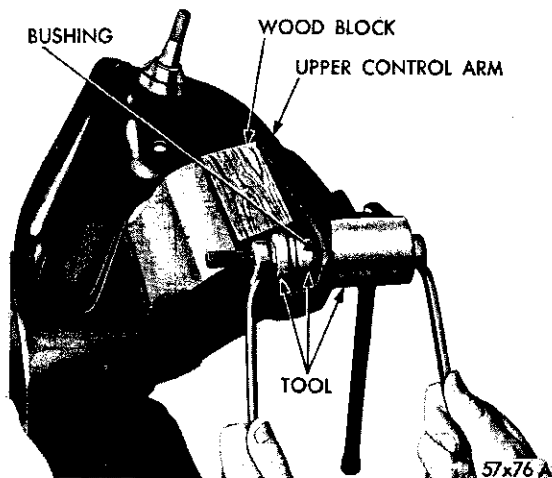

Fig. 13—Removing the Upper Control Arm Bushing
(1) Remove the ball joint using Tool C-3560 for Models TC-1, TC-2 and TC-3, or Tool C-3561 for TY-1. The ball joint balloon type seal will come off as the ball joint is removed.
(2) Assemble Tool C-3710 (using adaptor SP-3826 in place of SP-3088) over the bushing and press the bushing out of the arm (from inside out) (Fig. 13). The bushing support sleeve will come off as the bushing is removed. **Be sure the control arm is firmly supported if a hammer and drift is used in place of the tool.**